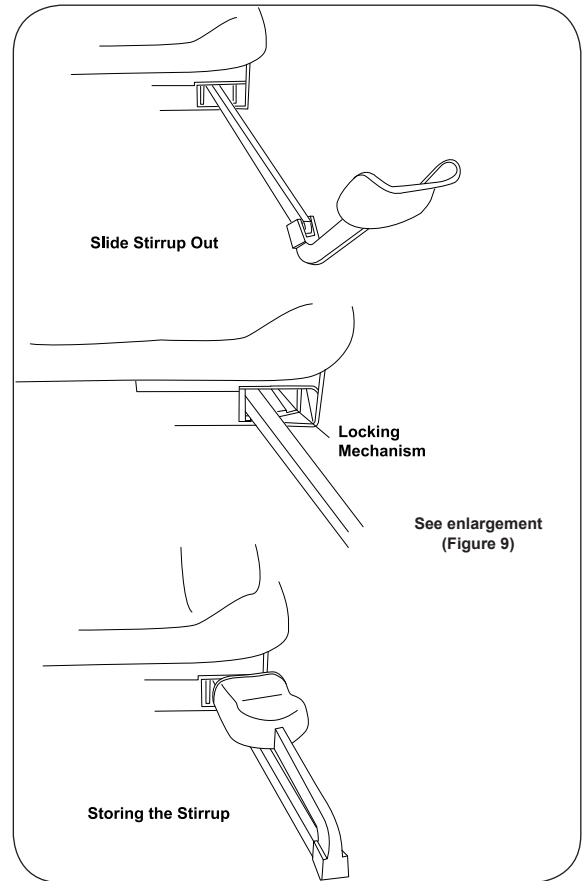

Figure 9. Stirrups
1. To operate the stirrups, grasp end of stirrup and pull straight out of the table (Figure 9). Lift up slightly while sliding the stirrup out.
2. When the desired position is achieved, lower the stirrup to engage the lateral locking mechanism (Figures 9 and 10).